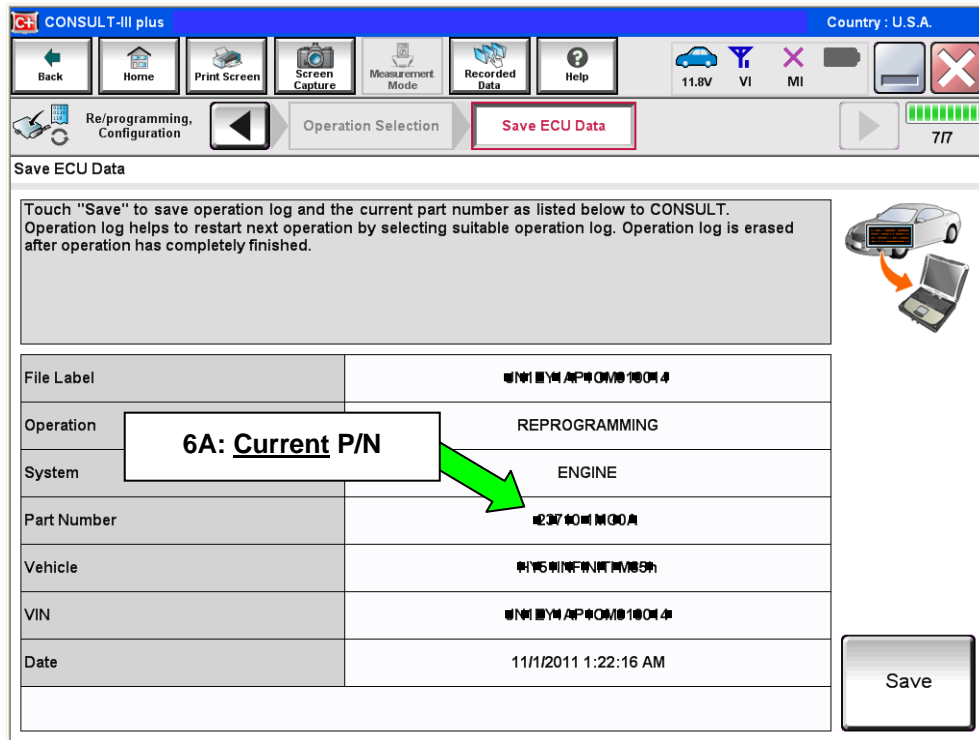

Figure 2
5. Follow the on-screen instructions and navigate the C-III plus to the screen shown in Figure 2 on the next page.
6. When you get to the screen shown in Figure 2, confirm this bulletin applies as follows:
**NOTE:** The screen in Figure 2 on page 4 will be similar for TCM reprogramming.